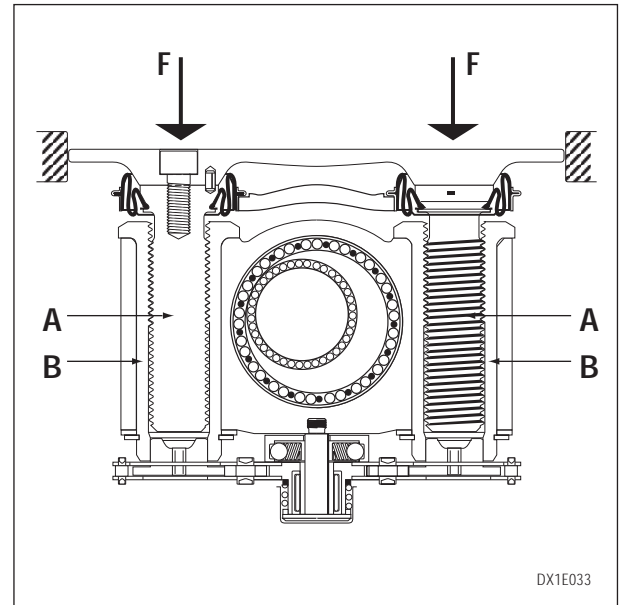

Fig. 2-6 Step 3A
- h) Clamping force generates friction in the screw threads between the adjuster sleeves  $B$  and pistons  $A$ , and friction under the flanged head of the adjuster sleeves (Fig. 2-6).